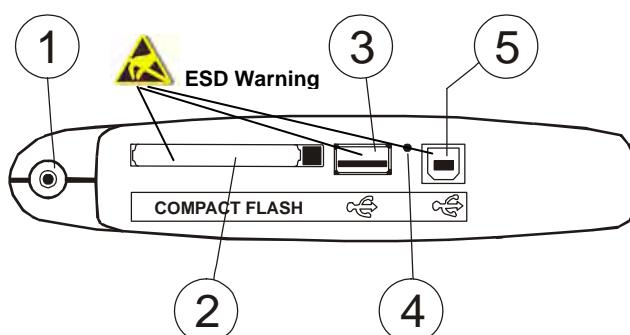

Fig. 3: Description of meter's output connectors
1. Using the PT400 pointer pen or another object softly pressing the internal part of the little hole which is present on the lateral side of meter (see Fig. 3 – 4). The meter goes automatically off.